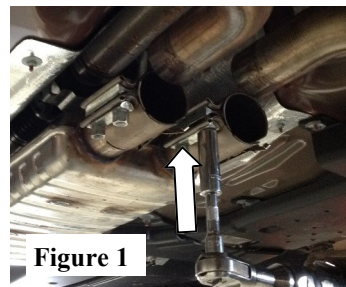

Figure 1
140586, 140587, 140588, 140590, 140591, 140589 only: Loosen (2) factory band clamps on the front factory mid-muffler. (See Fig.1)